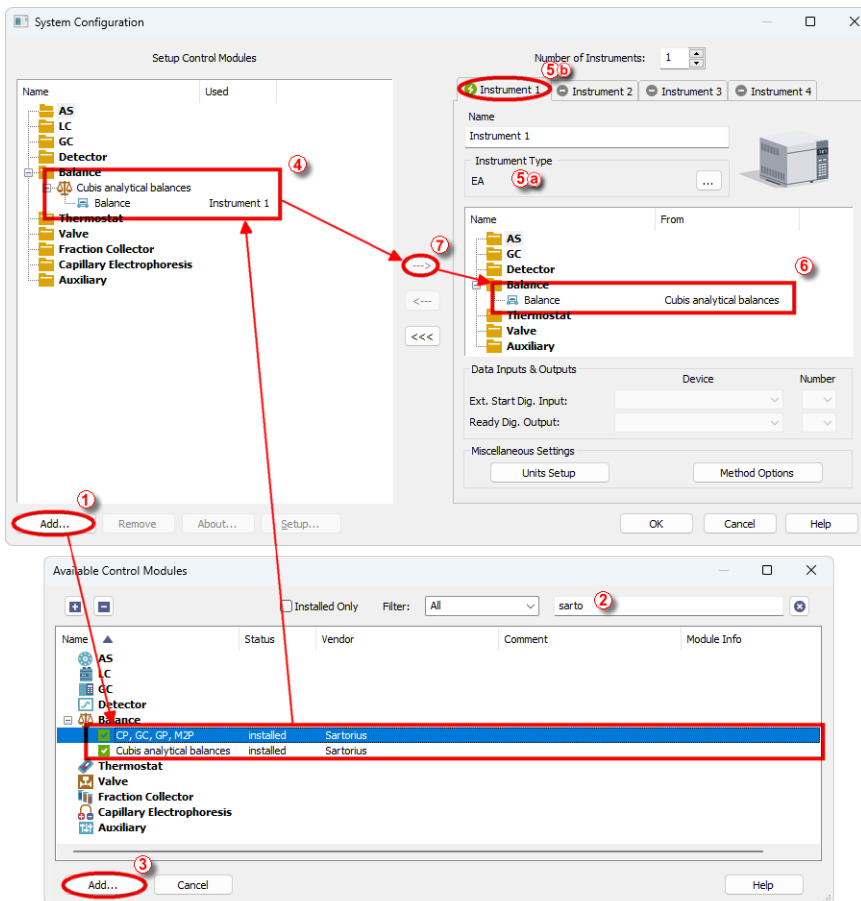

Fig. 2: How to add Sartorius balances
- Press the *Add* button (1) (see Fig. 2 on pg. 4.) to invoke the *Available Control Modules* dialog.
- You can specify the searching filter (2) to simplify the finding of the driver.
- Select the **Sartorius** balances and press the *Add* (3) button.